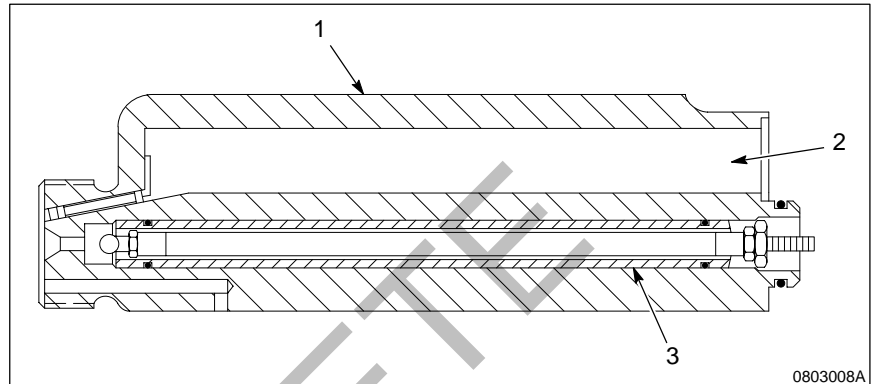

Fig. 6 Cleaning the guide bore
11. Remove the insulating tube (8) with resistor (9) from the gun extension (2).
12. Push the resistor (9) with springs (12) and screws (13) from the insulating tube (8).
13. Clean the insulating tube (8), resistor (9), and springs (12) with the Cable Cleaning Service Kit and the nylon bristle brush.
14. See Figure 6. Clean the bores of the extension (2) with the Cable Cleaning Service Kit and the nylon bristle brush. Refer to the *Parts* section for kit ordering information.
4. See Figure 6. In the gun extension (1), clean the cable guide bore (2) and needle guide bore (3) with the nylon bristle brush and solvent. If coating material is hardened in the needle guide bore, use a $1\frac{3}{64}$ -inch hand reamer to clean it.
5. Wash and blow out the needle guide bore (3) after reaming.
6. Use the Cable Cleaning Service Kit to clean the cable guide bore (2) before installing the cable on the gun. Refer to the *Parts* section for kit ordering information.